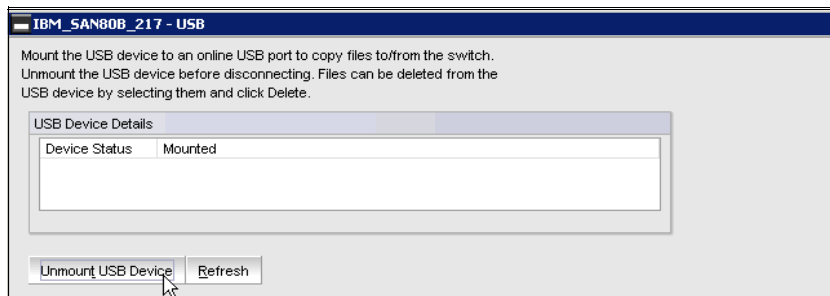

Figure 12-58 Unmount USB device
6. Unmount the USB device before unplugging it to prevent data corruption, as shown in Figure 12-58.
9. Unmount the USB device as shown before in Figure 12-58 on page 571.